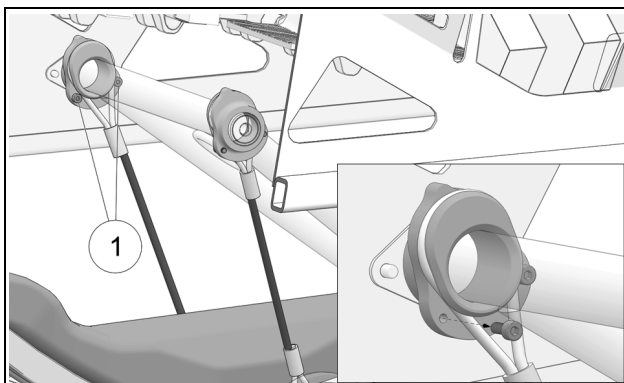

Figure 18
- Use a 3 mm Allen key to remove one of the two bolts (1) that lock the limiter cable on the upper cam. Figure 18.